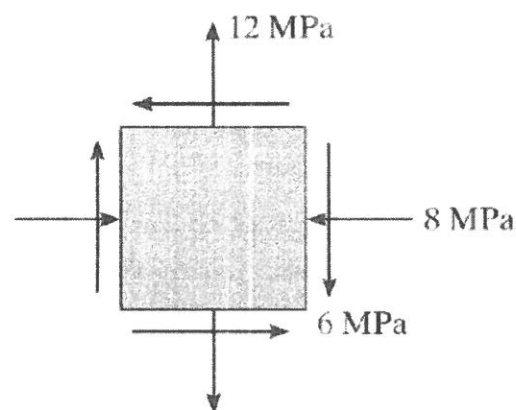

Fig. 3
3. The state of plane stress at a point is shown on the element in Fig. 3. Using Mohr's stress circle to determine the answer for following problems,